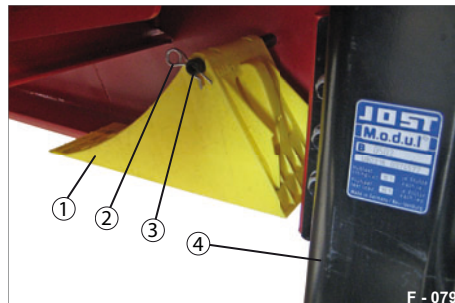

Fig. 105 Wheel chock on retaining bolt
- Remove the spring pin (Fig. 105/2).
- Remove the wheel chock (Fig. 105/1).
- Fit the wheel chock onto the retaining bolt (Fig. 105/3).
- Secure the wheel chock using the spring pin (Fig. 105/2).